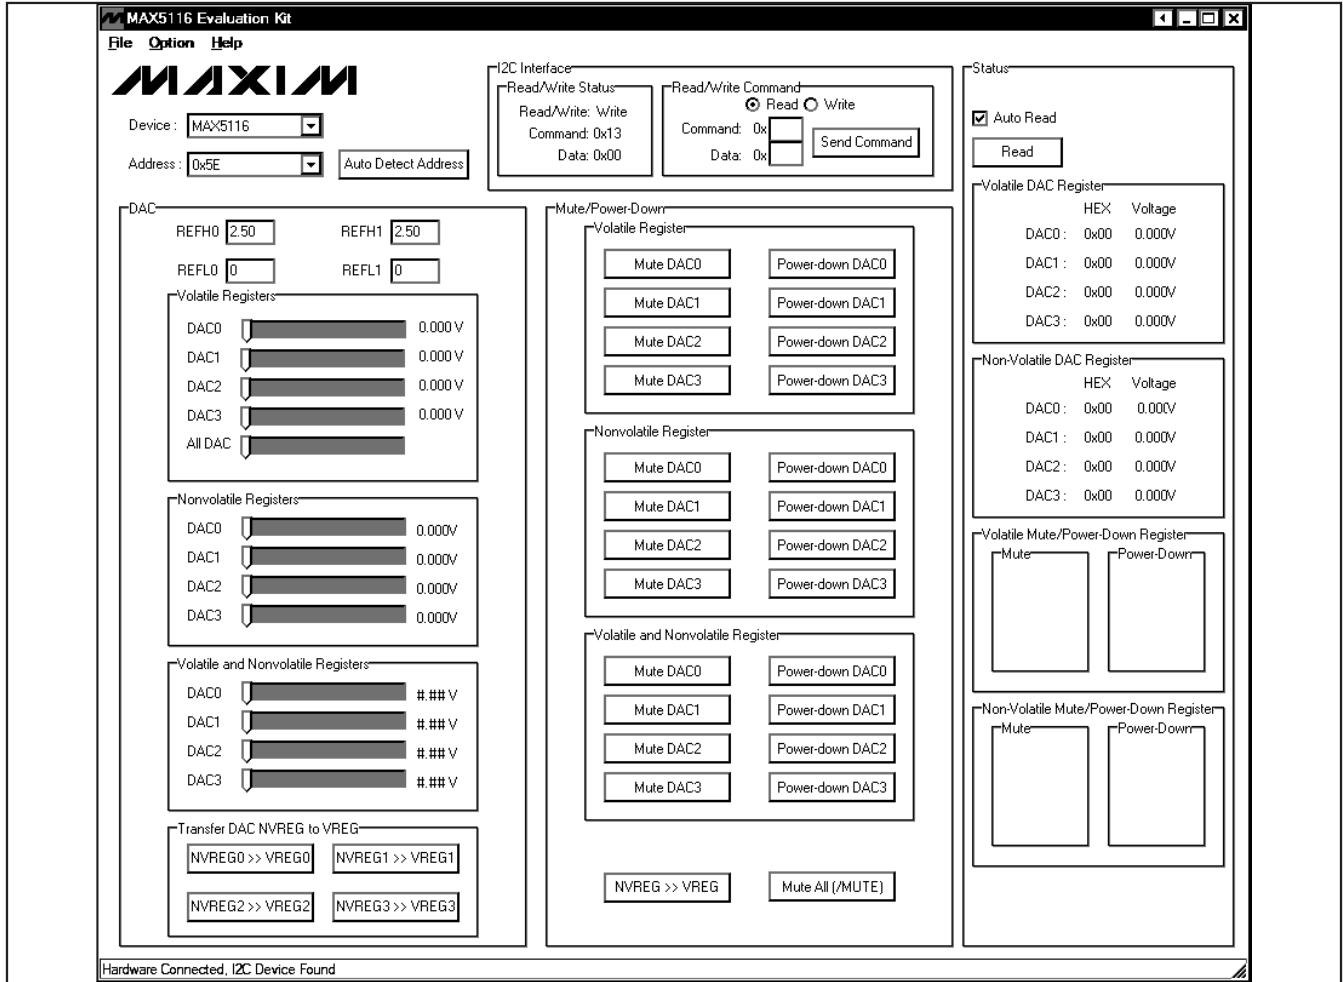

Figure 1. MAX5116 EV Kit Software Main Window
- 6) Start the MAX5116 EV kit software by opening its icon in the **Start | Programs** menu. The EV kit software main window appears, as shown in Figure 1.
To start the MAX5116 EV kit software, double-click the MAX5116 EV kit icon that is created during installation. The GUI main window appears, as shown in Figure 1. The **DAC** group box located at the left of the window controls the output-voltage settings for the DACs. Mute and power-down functions are in the **Mute/Power-Down** group box located in the middle section. The **Status** group box at the right displays the voltage values of the DACs. The **I2C Interface** group box at the top allows the user to transfer I2C commands by entering the commands in the edit boxes.